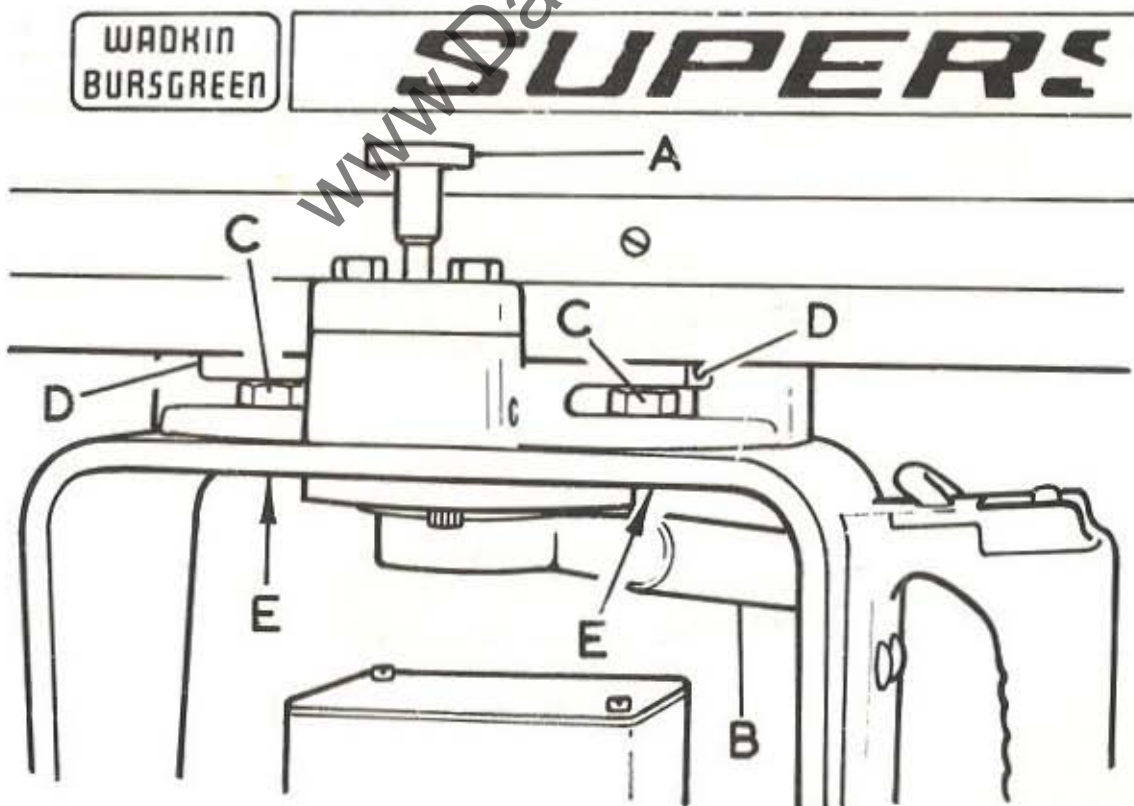

FIG. 14.
The stirrup is fastened to the carriage by a central pin which enables the motor to swivel through 360°. The principle angles are located by a tapered latch "A" in Fig. 14. The stirrup can be locked at any angle by the lever "B".
3. Insert 10mm spanner into arpeture and loosen two hexagon locknuts "C" in Fig. 14 then loosen two socket head grub screws "D".